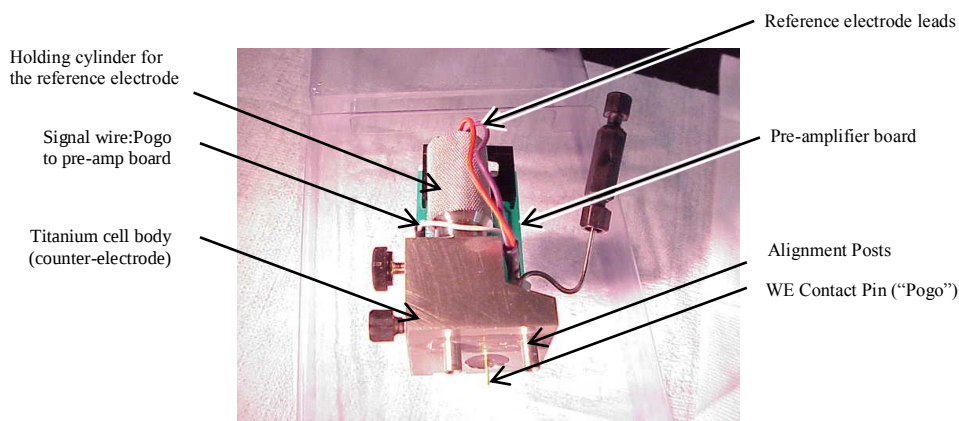

Figure B-1 - The Conventional Side
Figure B-1 shows an ED40 cell body as it is normally configured for use with conventional electrodes. Figure B-2 shows a conventional silver electrode and two wing nut screws that are the standard components of each ED40 cell. Additionally, Figure B-2 also shows the disposable electrode (DE) and the modified gasket (MG). You will notice the small circle on the DE, which is the working electrode, the larger circle, which is a contact pad and the straight, narrow lead which connects them. The reverse side (the “dull” side) of the polyester sheet does not carry any metal.